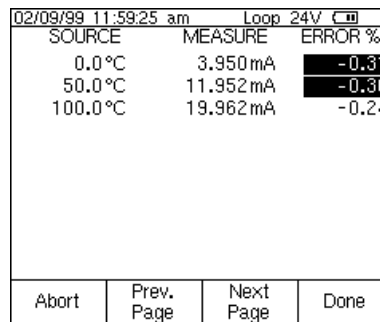

Figure 22
4. Press **Done** and then press **Auto Test**. Once the test is complete, an error summary table is displayed (Figure 22). Test errors exceeding the tolerance are highlighted. If the test passed, i.e., if no errors are highlighted, adjustment is not required.